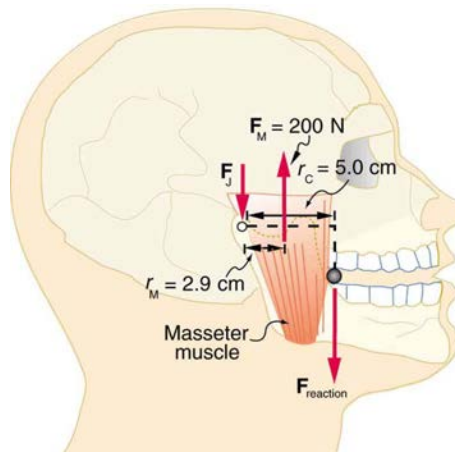

Figure 9.44 A person clenching a bullet between his teeth.
35. Unlike most of the other muscles in our bodies, the masseter muscle in the jaw, as illustrated in **Figure 9.44**, is attached relatively far from the joint, enabling large forces to be exerted by the back teeth. (a) Using the information in the figure, calculate the force exerted by the lower teeth on the bullet. (b) Calculate the force on the joint.